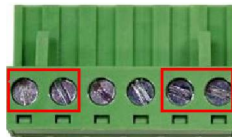

Figure 2.13 - Power Terminal Block
2. Tighten the wire-clamp screws to prevent the wires from loosening, as shown below in *Figure 2.13*